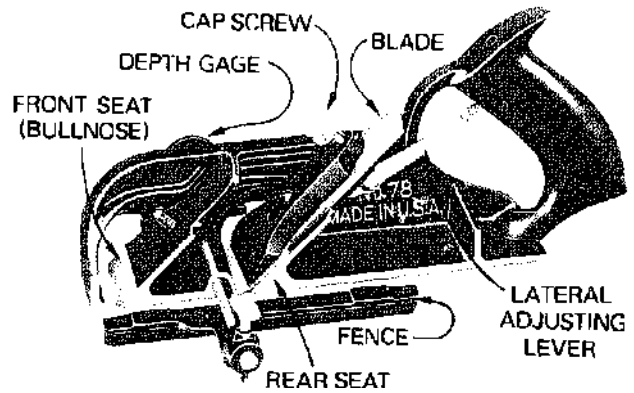

Fig. 8-63 Rabbet plane
- The *rabbit plane* cuts a rectangular recess on the edges or ends of boards. See figures 8-63, 8-64, 8-65 and 8-66.